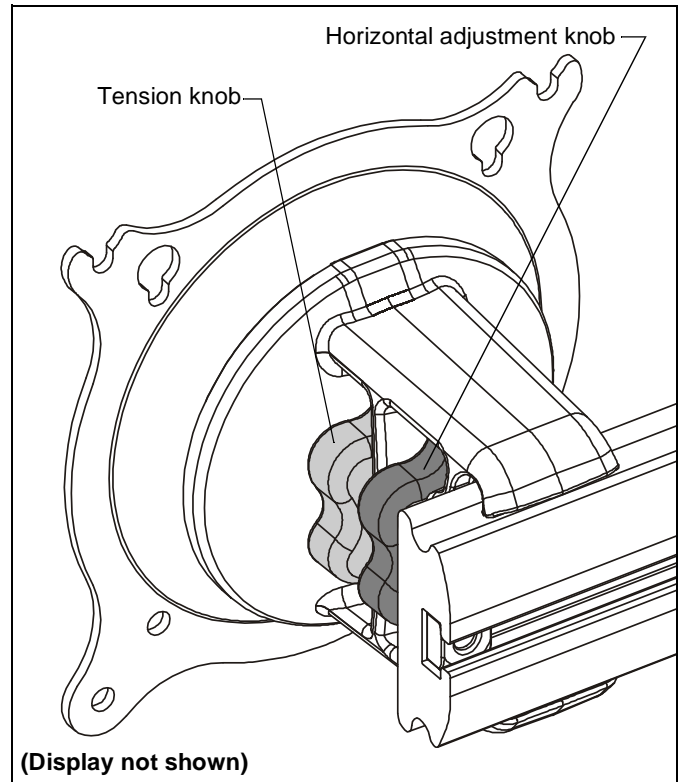

Figure 10
1. Using your fingers, slightly loosen horizontal adjustment knob. (See Figure 10)
3. Using your fingers, tighten horizontal adjustment knob. (See Figure 10)
1. Using your fingers, slightly loosen tension knob. (See Figure 10)